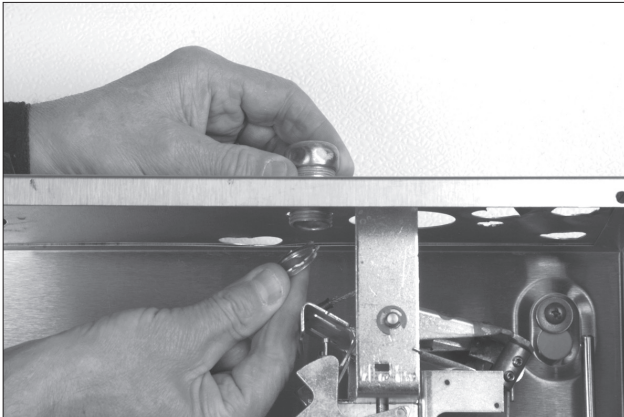

FIGURE 5-86
1. Starting at the AUTOMAN release, connect the conduit connector using the supplied nut. Use only ANSUL® conduit fittings (Part No. 55813). See Figure 5-86.